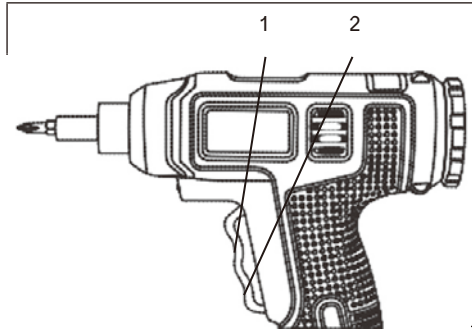

Fig. 5
1. To drive screws, press the upper portion of the trigger switch (1) (Fig. 5).
2. To remove screws, press the lower portion of the trigger switch (2).